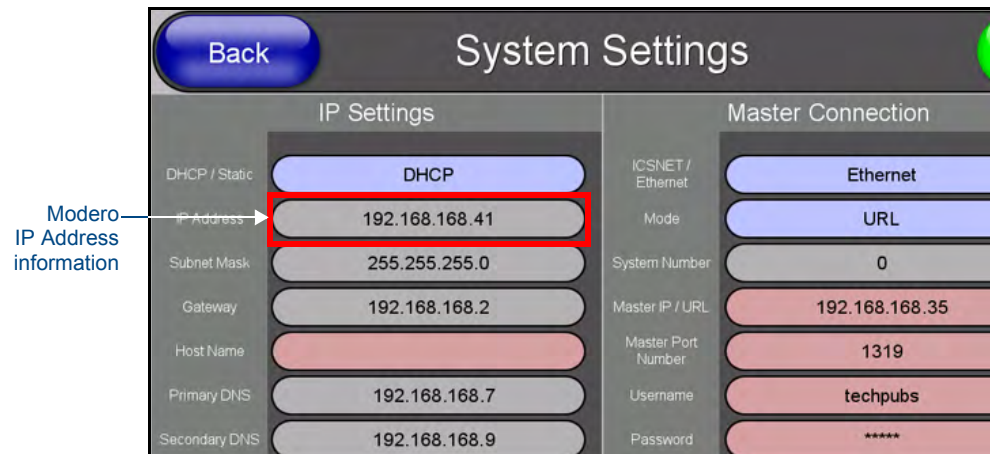

FIG. 41 System Settings page
4. Press the **System Settings** button (located on the Protected Setup page) to open the System Settings page and obtain the IP information from the *IP Address* field (FIG. 41).
11. Enter the previously obtained IP Address of the target Modero panel (FIG. 41) into the *Target Address* field.